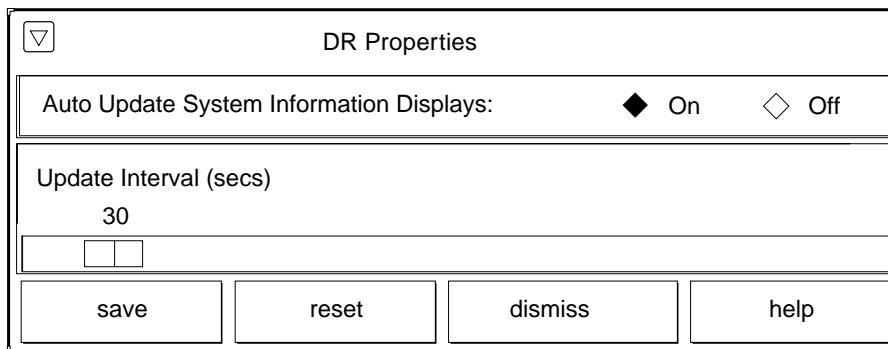

FIGURE 3-7 DR Properties Window
1. Click the `Properties` button in the Dynamic Reconfiguration window for attach or detach (FIGURE 3-7).